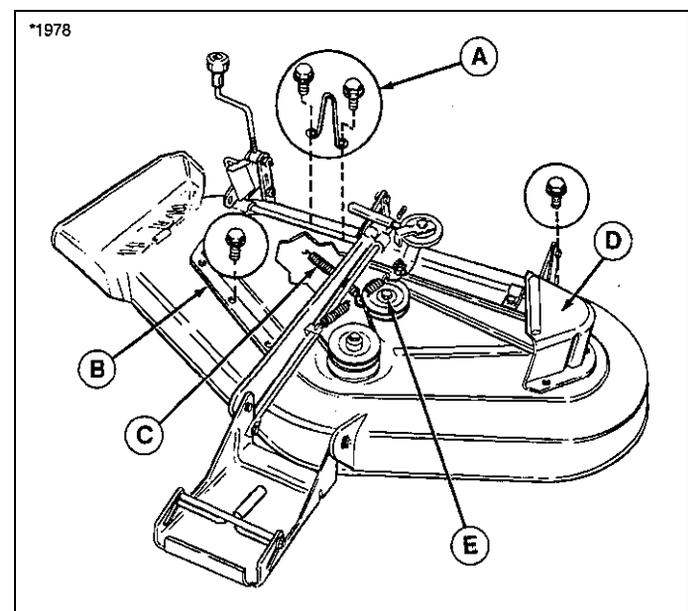

Figure 45. Mower Deck - 44" & 50"
5. See Figure 45. Remove three capscrews securing left-hand arbor cover (D).
8. See Figure 45. Reinstall the left-hand arbor cover (D).